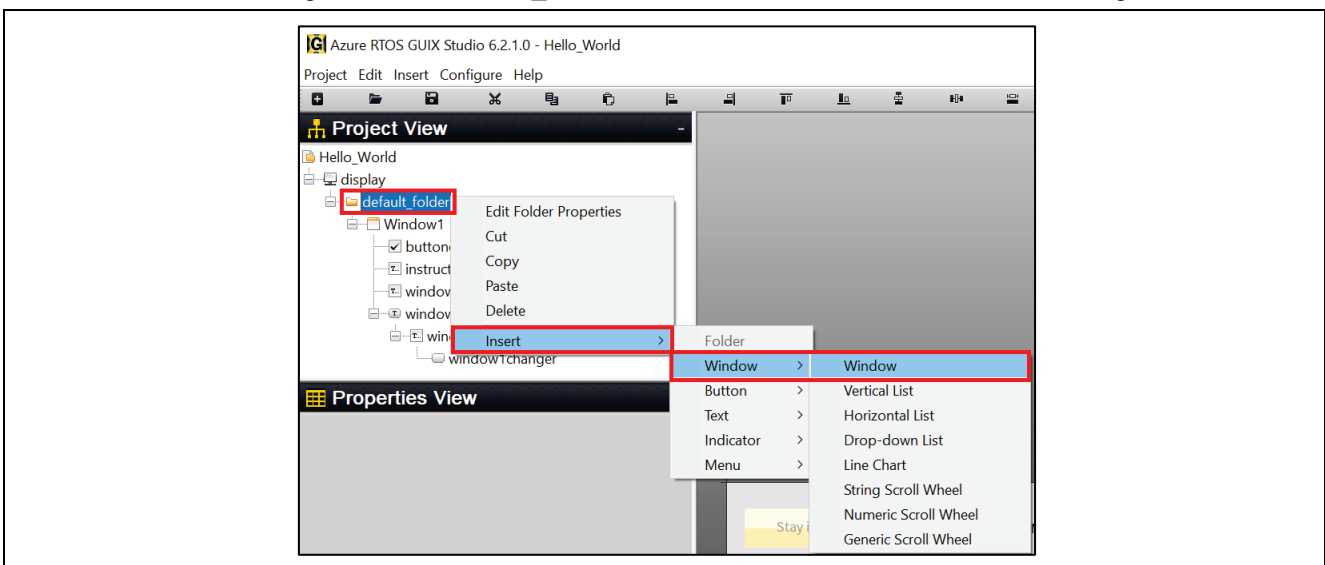

Figure 61. Insert Window2
23. **Insert Window2.** Right click on **default_folder** and **Insert > window > window** follow Figure 61.